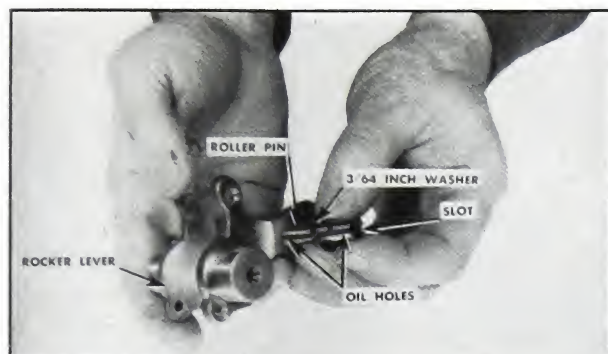

Fig. 5-241. Lining up oil holes
4. Scribe a mark on the cam rocker lever to locate the oil hole. Line up the oil hole of the pin with the scribed mark. With bushing and roller in place, press in the pin until the bottom of the slot is almost flush with the side of the rocker lever, or until the slotted end is $\frac{3}{64}$ " from the side of the lever. Fig. 5-241.
NOTE: A $\frac{3}{64}$ " thick washer over the pin and between the press and lever is handy to stop the pin at its proper position. Fig. 5-241.
5. Check lubricating passage with air hose. Slot in pin should line up with scribed mark on the lever. Fig. 5-241.